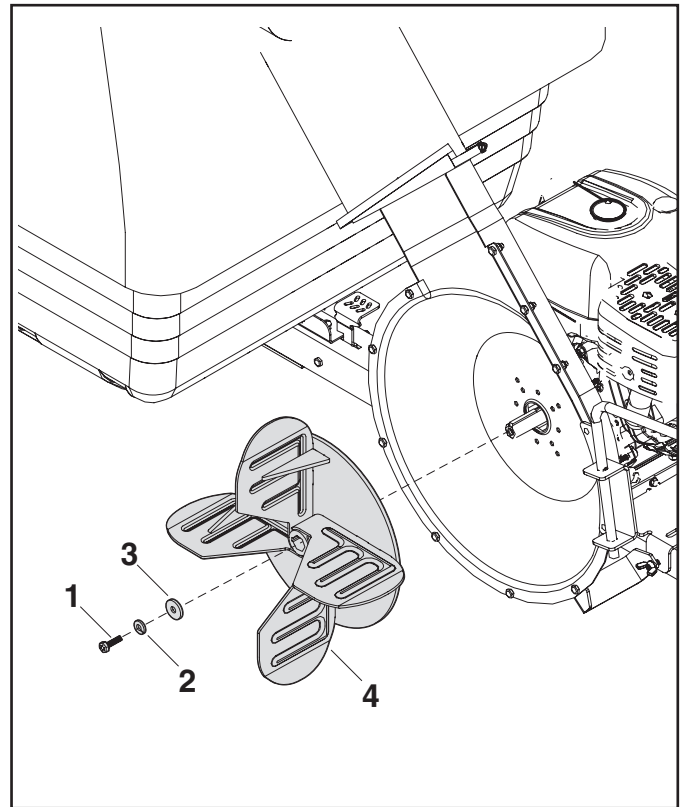

FIGURE 33
- Remove the bolt (1), nut (2), and washer (3) from the impeller hub. See figure 33.